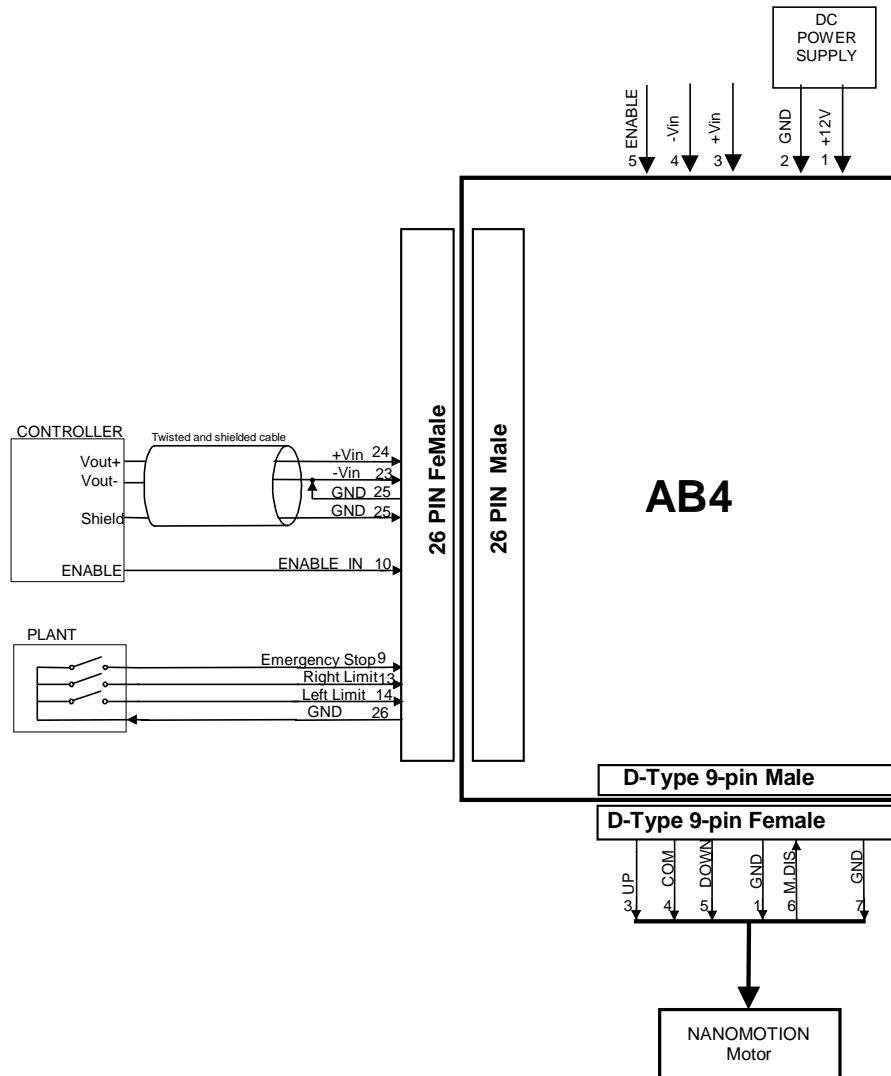

Figure 6: Non-Differential (single-ended) Analog Input Connection.
- Single-Ended Connection (see Figure 6)